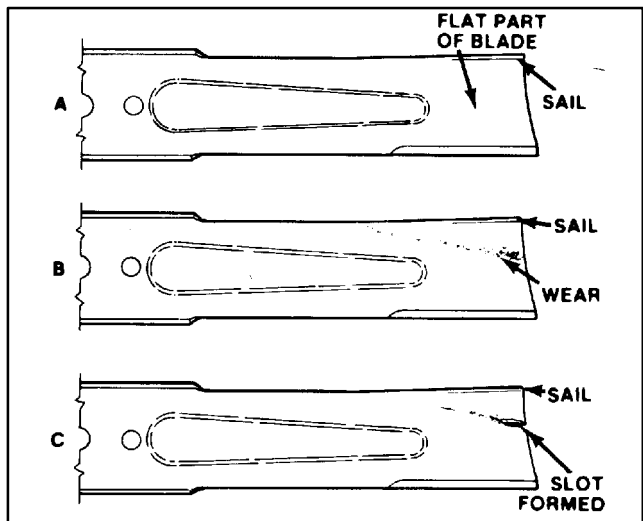

Figure 27
(Fig. 27 – 28)
2. Examine cutting ends of the blade carefully, especially where the flat and curved parts of the blade meet (Fig. 27–A). Since sand and abrasive material can wear away the metal that connects the flat and curved parts of the blade, check the blade before using the machine. If wear is noticed (Fig. 27–B), replace the blade: refer to Removing Cutter Blade.
If blade is allowed to wear, a slot will form between the sail and flat part of the blade (Fig. 27–C). Eventually a piece of the blade may break off and be thrown from under the housing, possibly resulting in serious injury to yourself or bystander.